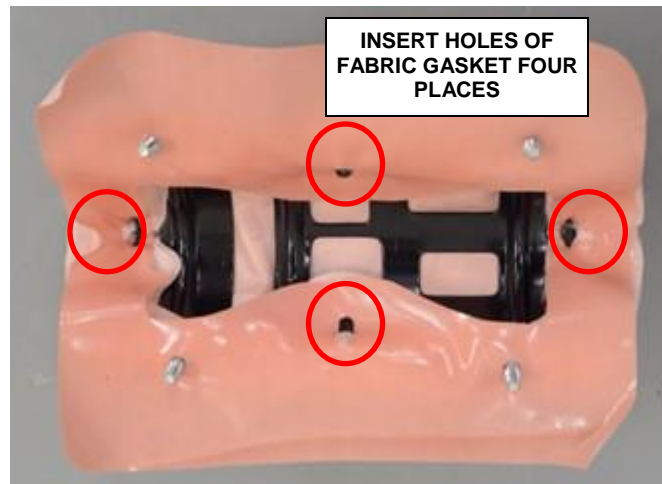

Figure 156 – Fabric Gasket
- j. With the help of a trim tool insert the holes of fabric gasket, four places (Figure 156).